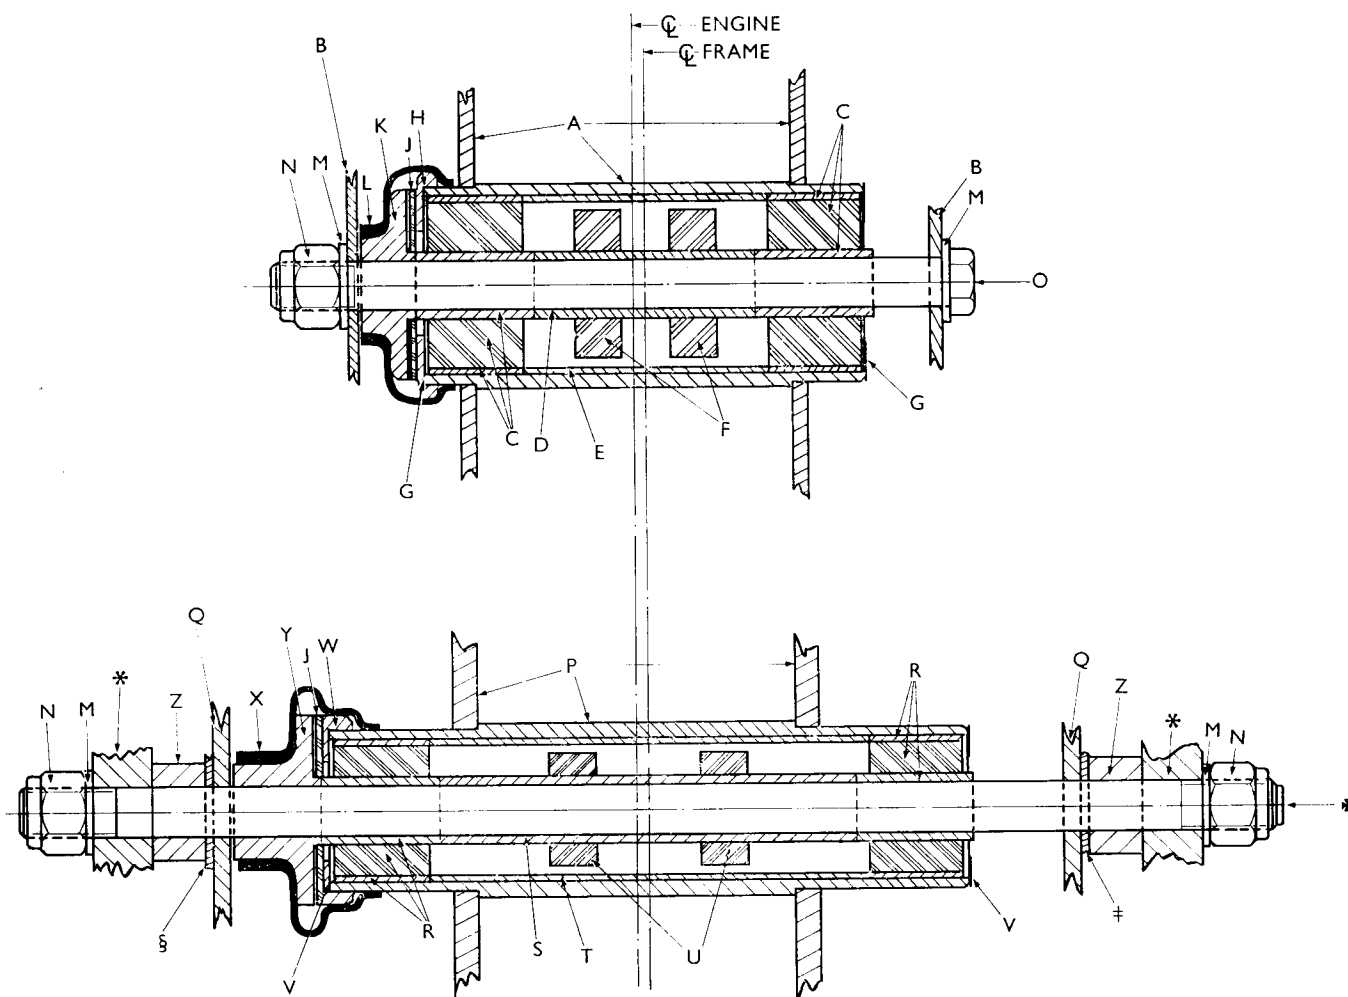

FIG. 35
To remove the engine mounting bush (C), and the two rubber spacers (F), an arbour press is used with a suitable mandrel inserted through the assembly. The method used is shown in Figure 38. With the engine mounting suitably located, the mandrel under pressure will press out the bushes and spacers as shown in the general arrangement drawing (Figure 35).